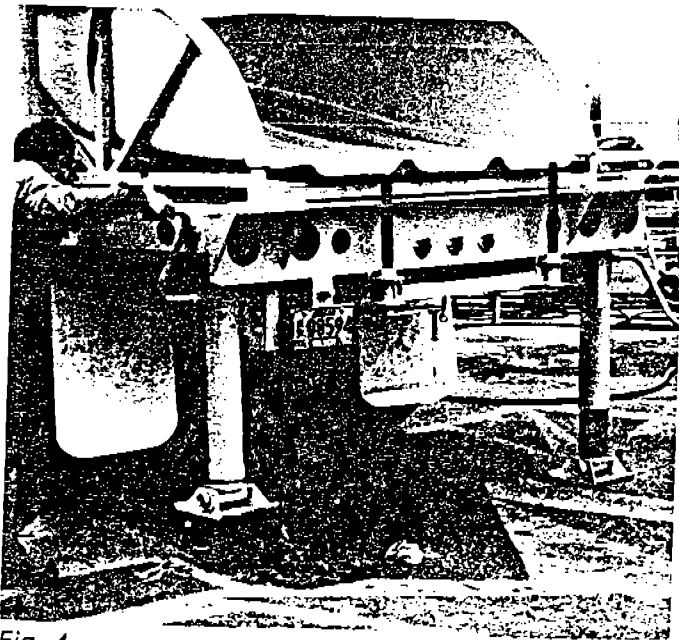

Fig. 4
- c. Lower rear landing gears to the ground. (Fig. 4)